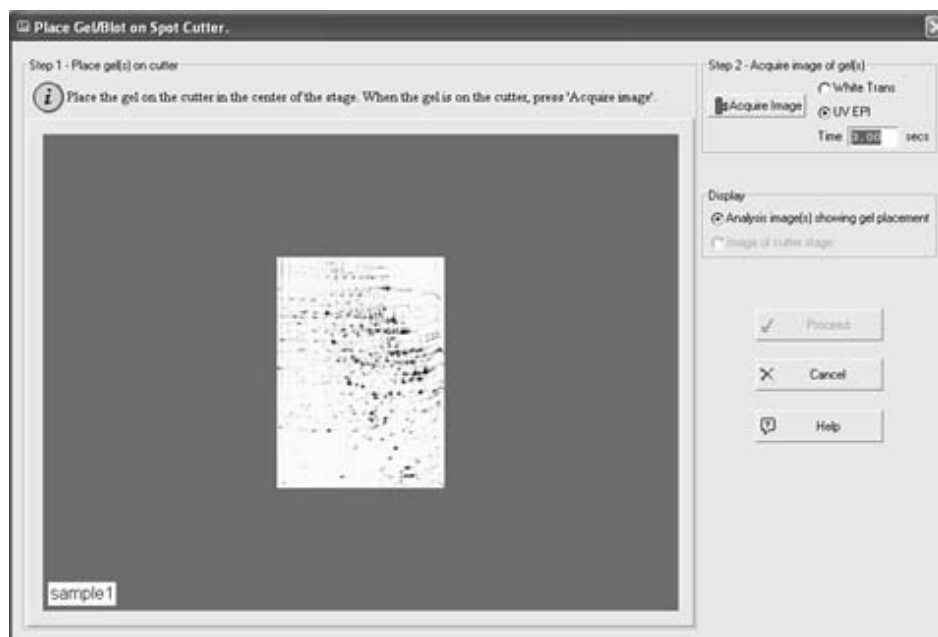

Figure 6-10. Place Gel/Blot on Spot Cutter dialog box: Single Gel Placement
8. Press **Go** to open the "Place Gel/Blot on Spot Cutter" dialog (see Figure 6-10 and 6-11).
9. Place the gel(s) or blot(s) on the gel tray and position them as shown in the image (see Figures 6-10 and 6-11 for an example). Make sure the gels or blots are held securely in place by the clamps provided with the spot cutter (see Section 4.1). Failure to clamp the gel or blot may result in decreased accuracy and low cut yields.